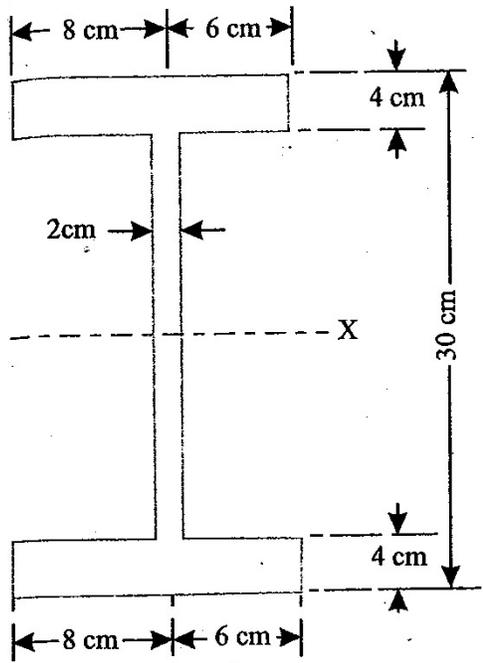

Fig. 1
20. Locate the shear centre of the section shown in Fig.1 and 2.